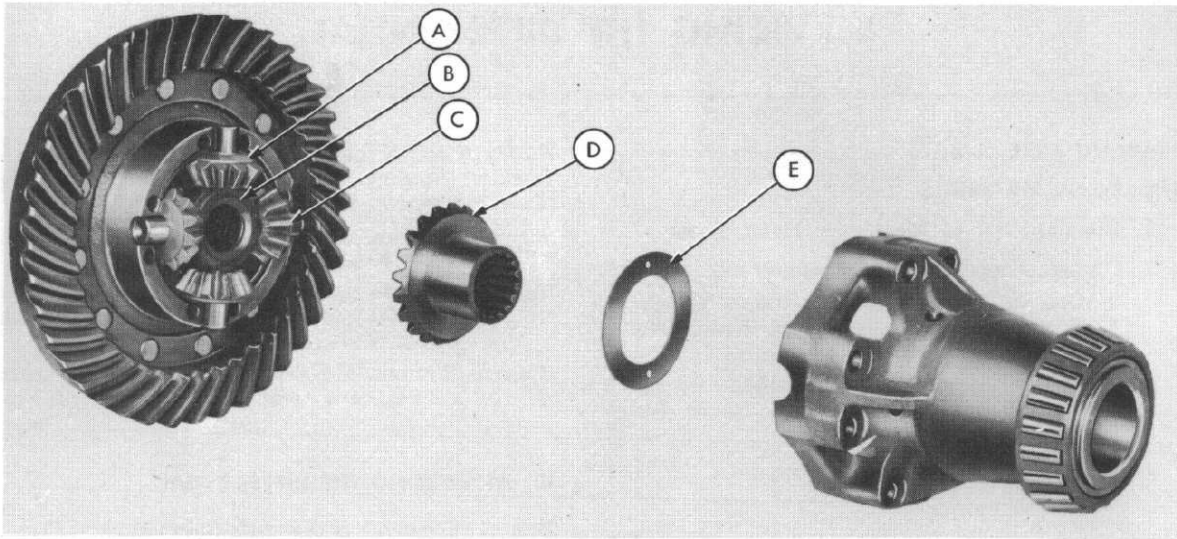

Fig. 2
- Step 3—Separate the two parts of the differential case as shown in Figure 2.
- Step 4—Remove the spider (C-Figure 2), the differential pinions (D-Figure 2), and the thrust washers (E-Figure 2).
- Step 5—Remove the axle shaft differential gears (B-Figure 2) and thrust washers (A-Figure 2).